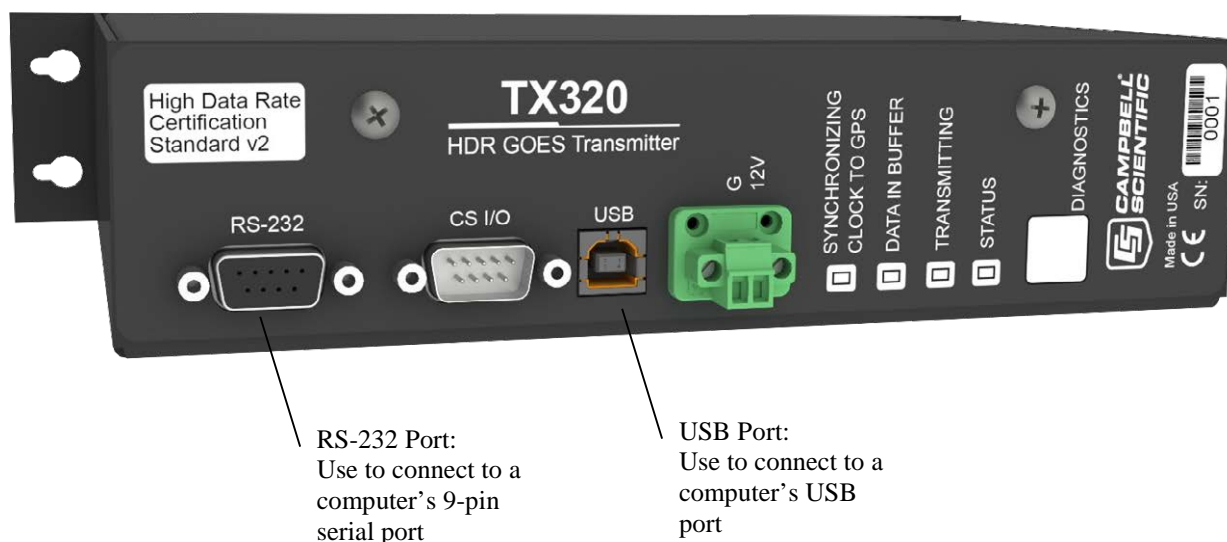

FIGURE 4-1. Ports used for computer connection
- Connect the TX320 to the PC. A standard 9-pin serial cable is used to connect the TX320's RS-232 port to the PC's RS-232 port. Alternatively, the transmitter can be connected to the PC's USB port via the 17648 USB cable (see FIGURE 4-1).